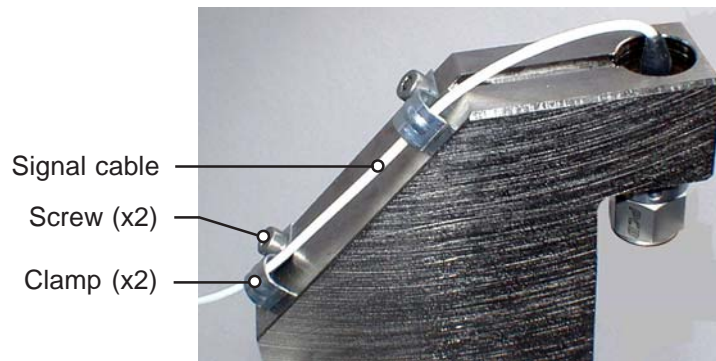

Fig. 3 - Signal cable clamping
- ▶ b) Loosen the screws, turn the clamps and free the signal cable (Fig. 3).